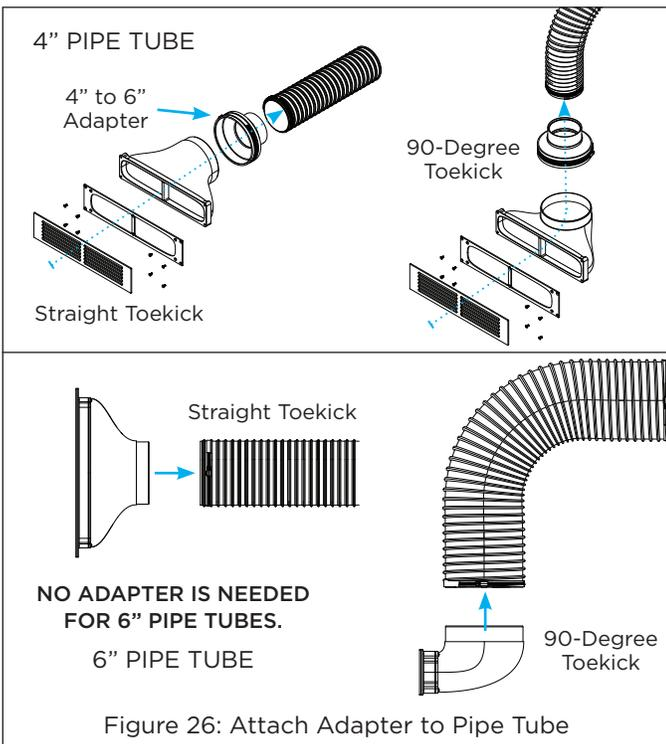

Figure 26: Attach Adapter to Pipe Tube
- The toekick sub plate and connector are in position and ready for the PPX pipe tube to be attached from behind the wall (see Figures 26 and 27).